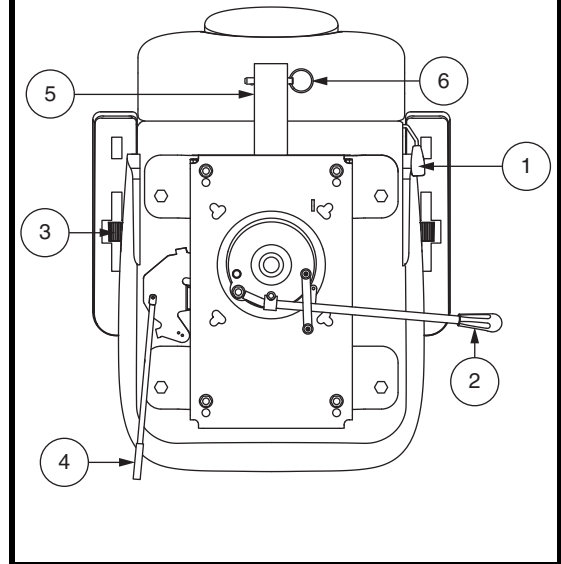

Figure 16. Seat Adjustments – Style B
If your scooter is equipped with a reclining seatback, you can adjust the seatback angle with the seatback adjustment lever. See figure 16.
1. Move the seat sliding lever (located at the lower left side of the seat) outward. See figure 16.
Armrest angle of your scooter can be adjusted upwards or downwards by turning the adjustment dial. See figure 16.
The rear-mounted accessory bracket allows you to attach a personal accessory such as a basket, walker holder, or oxygen tank to the back of your scooter. Utilize the detent pin to securely mount your item to the accessory bracket. See figure 16. See your authorized Provider for details.